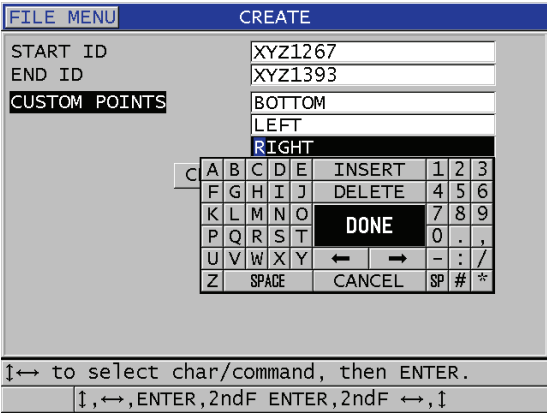

Figure 11-6 Configuring the ID range for a sequential with custom points data file type
3. In the second page of the **CREATE** screen (see Figure 11-6 on page 162):